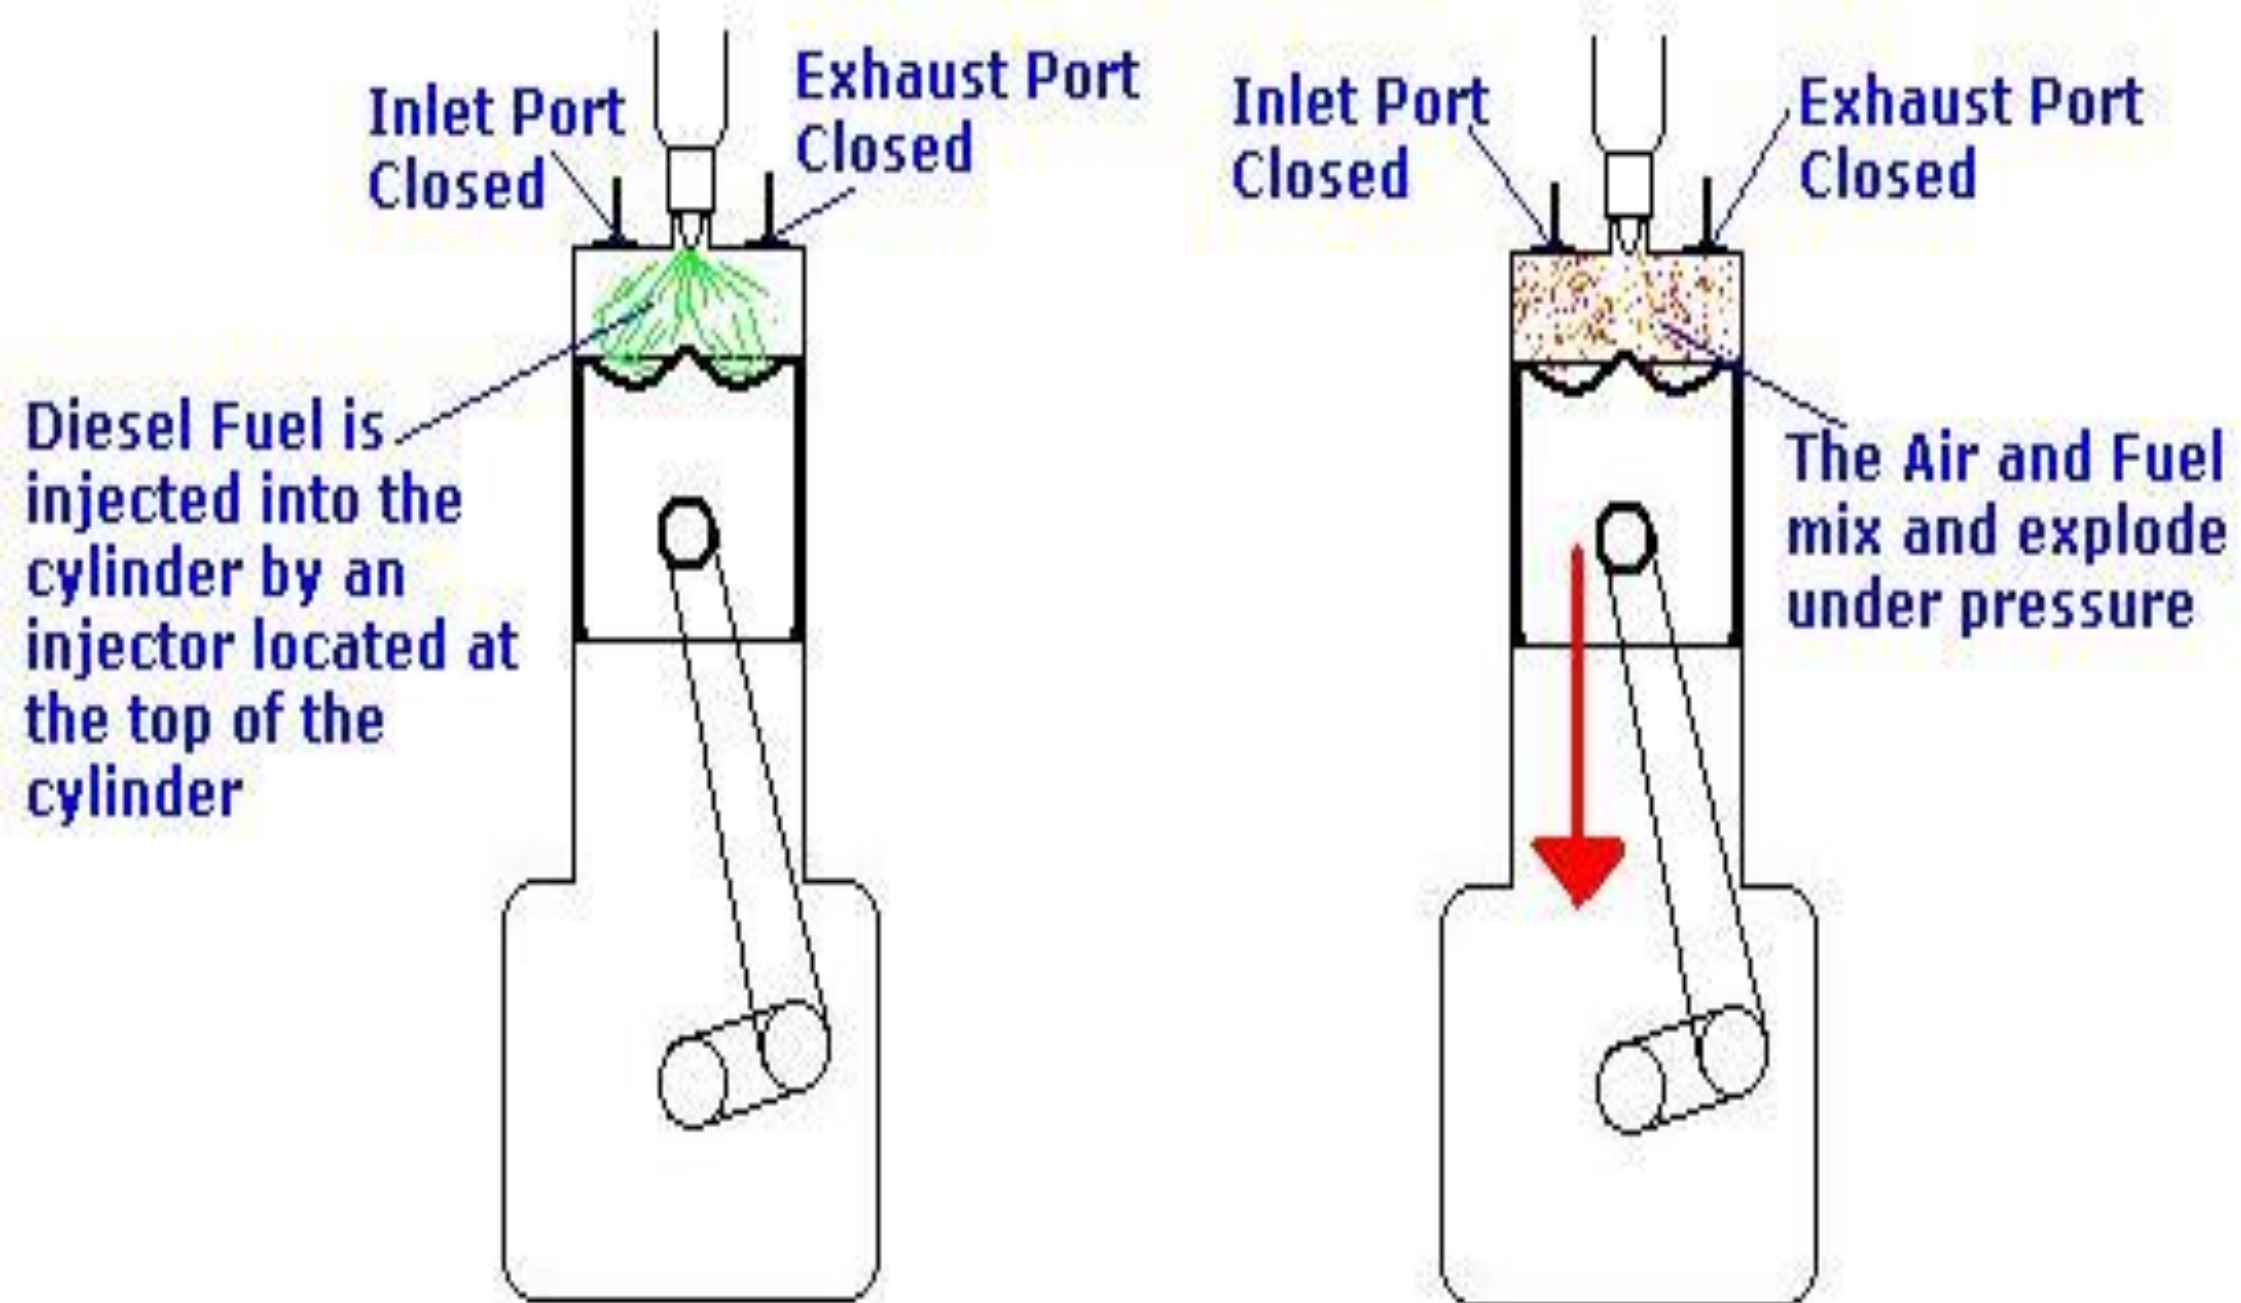

Figure12:Fuel injection and combustion followed by Expansion stroke .
- » **Combustion** is fully developed by TDC and continues at about constant pressure until fuel injection is complete and the piston has started towards BDC, refer figure 12.
- **Expansion/Power stroke** : The power stroke continues as combustion ends and the piston travels towards BDC, refer figure 12.